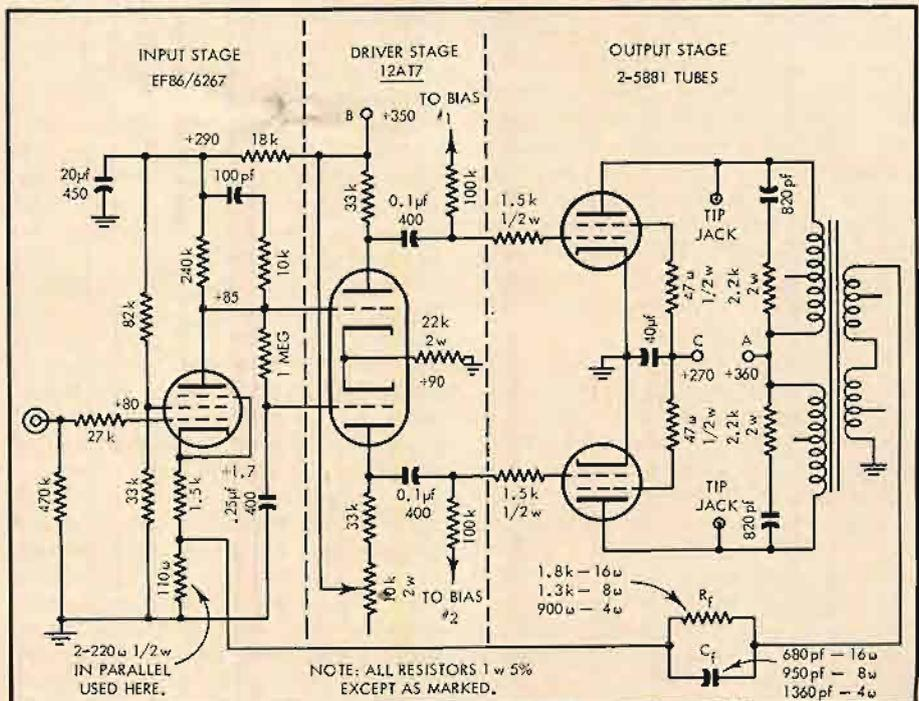

Fig. 4. Schematic of the amplifier section. Power supply is shown in Fig. 5.
1. Output Stage (see Fig. 4 for Schematic.) Two 5881 pentodes are used in each output stage and easily meet the requirement of 20-watt power output in Class AB operation with plate voltage of 360, screen 270, and a bias of -22.5 volts in fixed-bias operation. Plate current with no signal in 45 ma per tube, or 180 ma for all four output tubes. A major factor in the low distortion of the output stage is regulation of the screen supply by a twin triode, 12BH7 in a simple cathode-follower circuit.